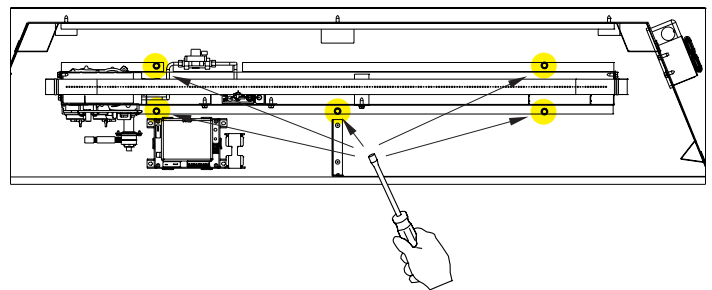

Figure 17
2. Remove the five 5/16" Hex screws that hold down the complete burner and valve assembly. There are three screws on the front bottom flange, and two on the back bottom flange, near the ends. **See Figure 17.**